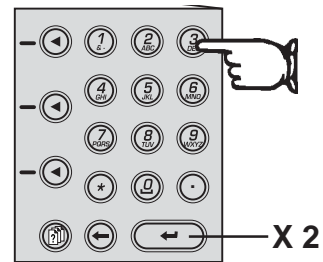

fig. 53
- 9) Weigh the collected product and use the numeric keypad to enter the net value of the product weight in the panel (Fig. 53).